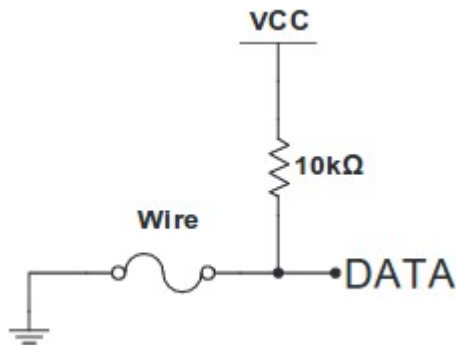

Figure 3: Simple Switch Circuit
2.1.1. Build the switch in Figure 3. For now, just use a wire as the switch. Plug the wire into GND to bring DATA (the switch output) low, alternatively, unplug it to bring DATA high.